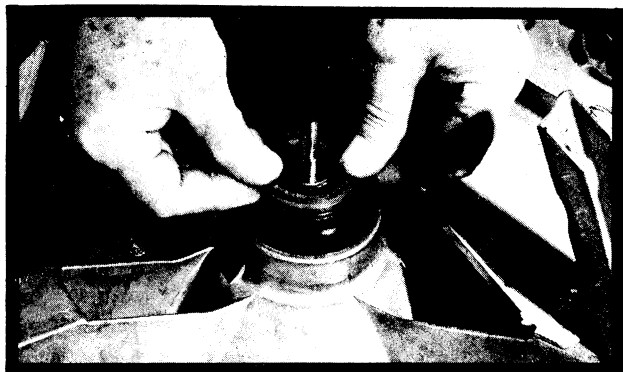

Figure 71
- d. Using this part of the pulley seal or bronze part of the water seal, carefully seat the bottom half of the seal, *Figure 71*.